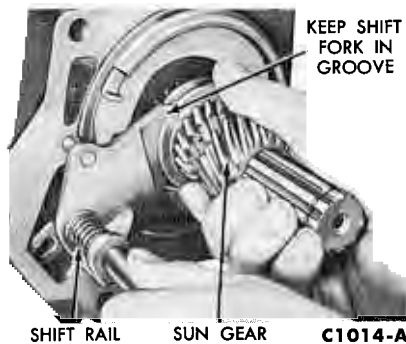

FIG. 20—Sun Gear and Shift Rail Installation
30. Install the sun gear and shift rail (Fig. 20).